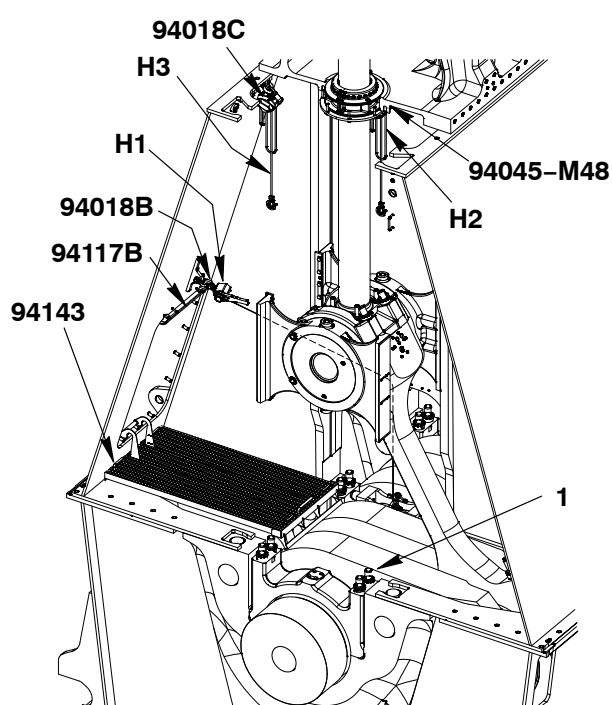
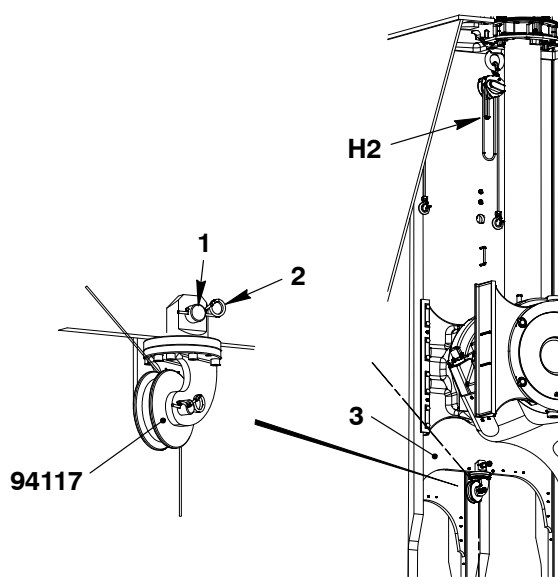

Fig. 2
Fig. 3
- 2) Attach the work platform (94143, Fig. 2).
- 4) Apply tension to the elastic studs (1) and remove their nuts, refer to 1132-1.
- 5) Install the chain block (H2, Fig. 3) and the eye bolt (94045-M48) near the gland box.
- 6) Attach the manual ratchet (H1, Fig. 2) and the shackle (94018B) to the column above the door.
- 8) Attach the roller support (94117, Fig. 3) to the column (3) with the pin (1).
- 9) Lock the pin (1) with the double spring clip (2).
- 10) Attach the deviation pipe (94117B, Fig. 2) to the column.